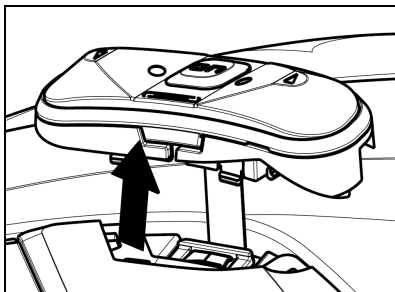

Fig. 22
- Rotate the keypad in a counterclockwise direction (Fig. 22)